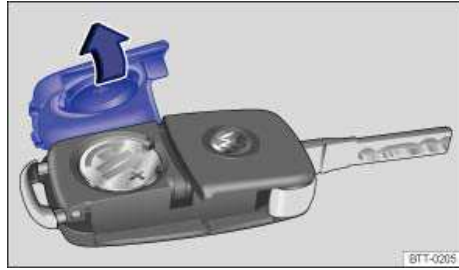

Fig. 23 Remote control vehicle key: Open battery compartment cover.
The battery is on the back of the remote control vehicle key under a cover ⇒ fig. 23.
- Remove the cover on the back of the remote control vehicle key ⇒ fig. 23 in the direction of the arrow ⇒ ⚠.
- Position the cover as shown ⇒ fig. 23 and press it down (opposite to direction of the arrow) until you hear it click into place.